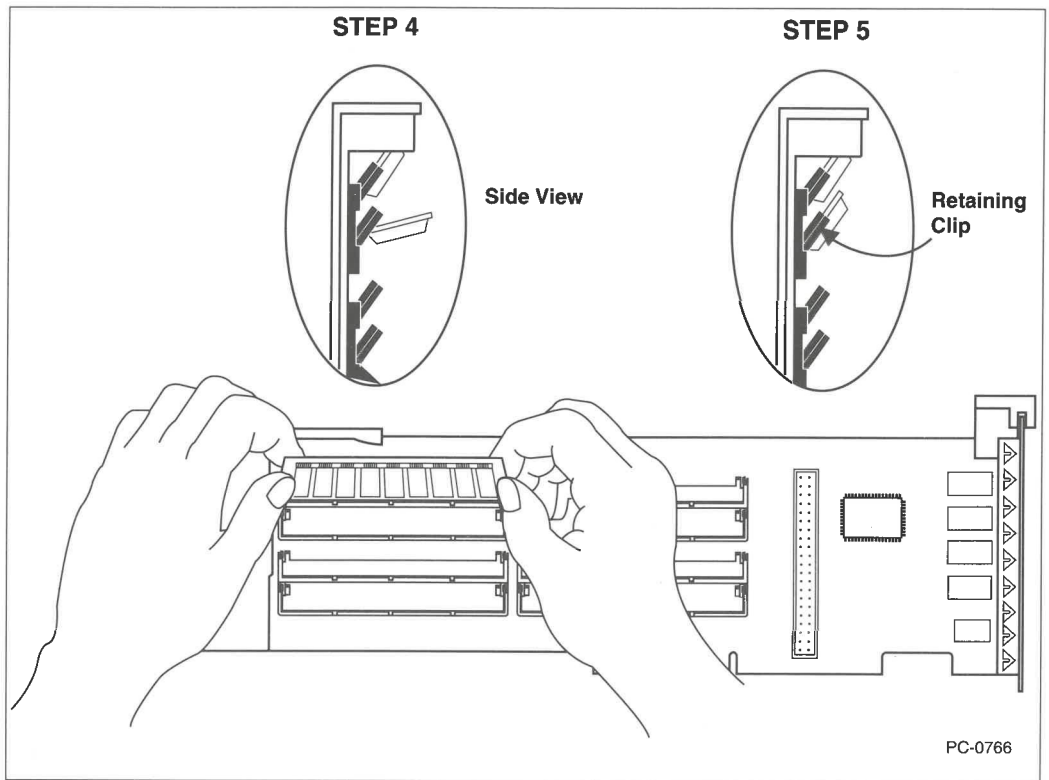

Figure A-3 *Inserting the SIMM*
3 Insert the SIMM in the socket, as shown in Figure A-3.
- 4** Press the top edge of the SIMM toward the board until the retaining clips snap into place (as shown in Figure A-3).